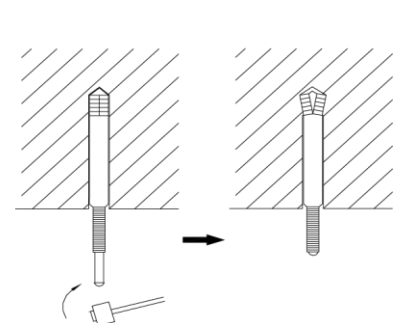

Figure 3-1-42
- (3) Insert the anchor bolts into the drilled holes, and drive the pins completely into the anchor bolts with a hammer. (Figure 3-1-42)